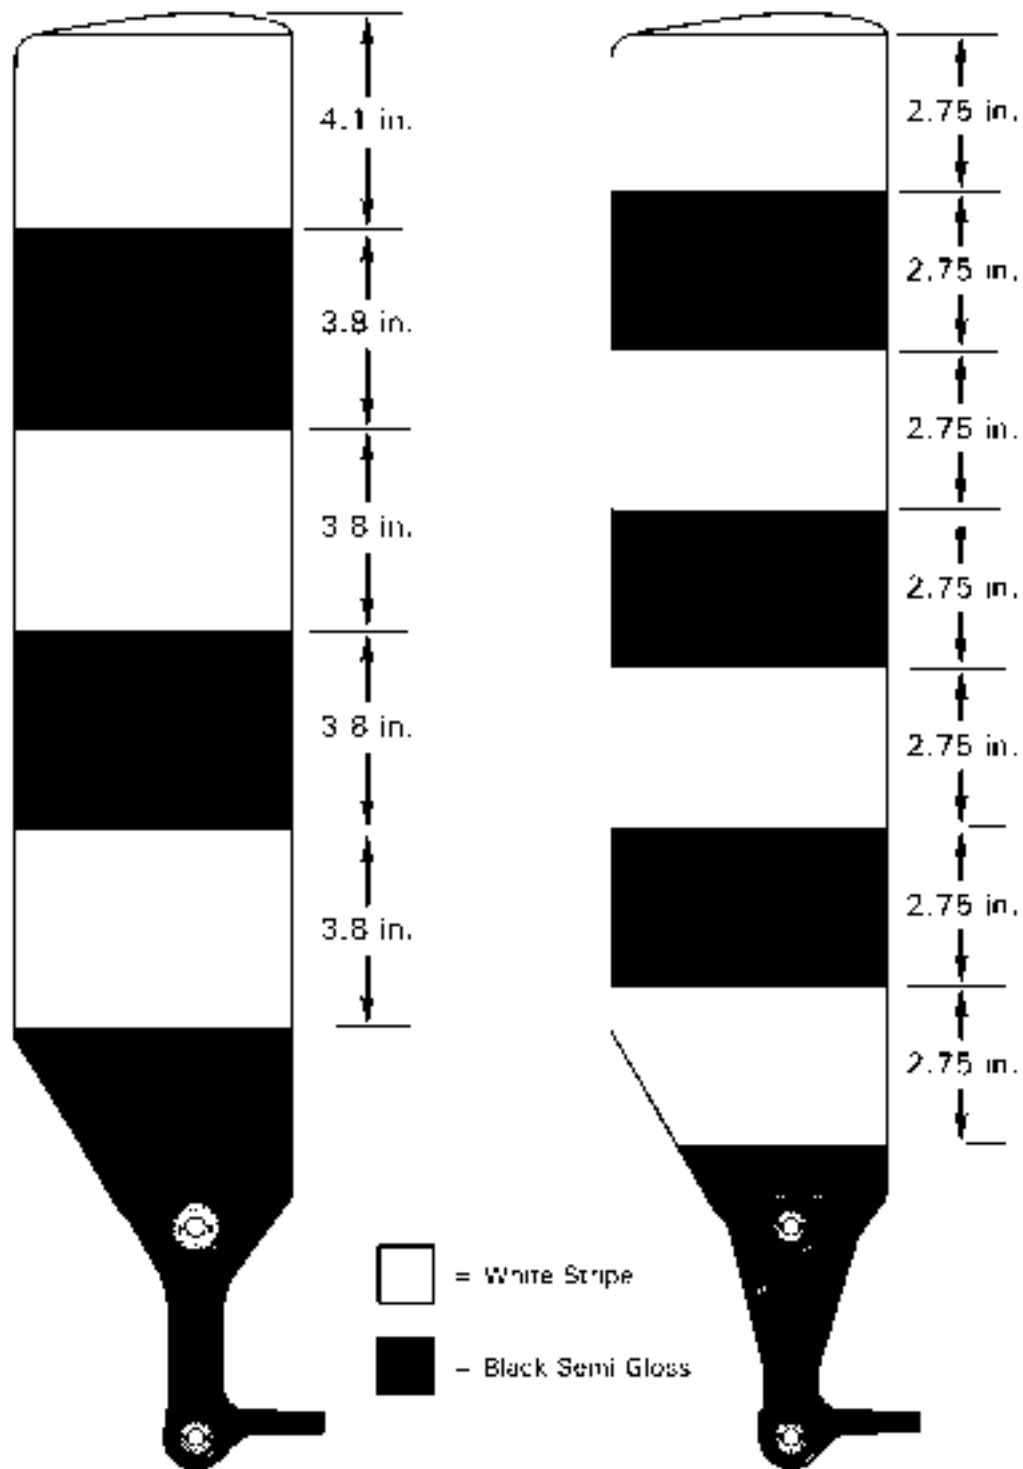

FIGURE 9-16 TAIL ROTOR BLADE PAINT SCHEME
4. Spray white all over and allow to dry before masking for trim stripes. See Figure 9-16.